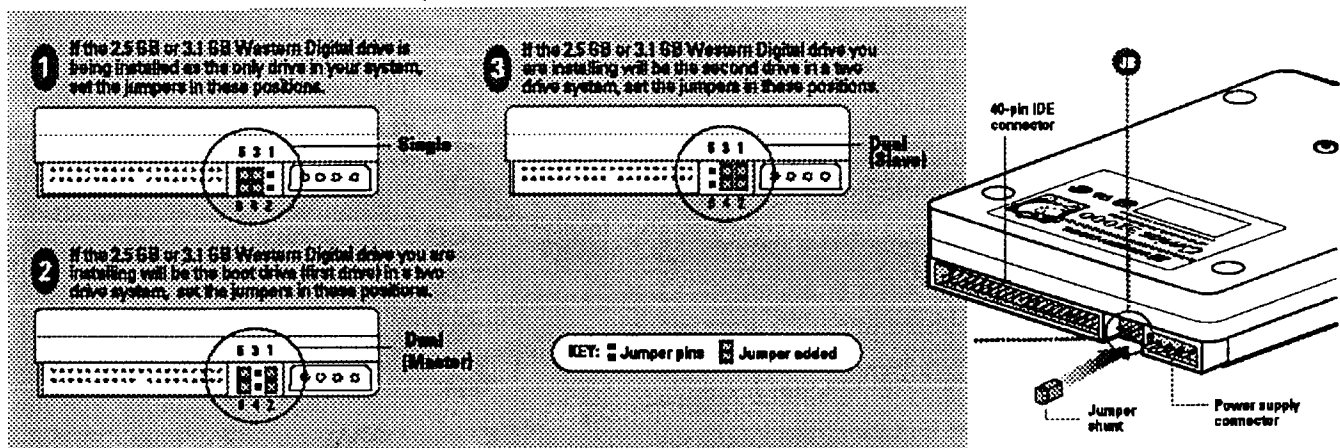

Figure 2. Jumper Settings for 2.5GB or Larger Hard Drives
2. Rejumper the drive as shown in Figure 2 on the previous page, and install EZ-Drive.